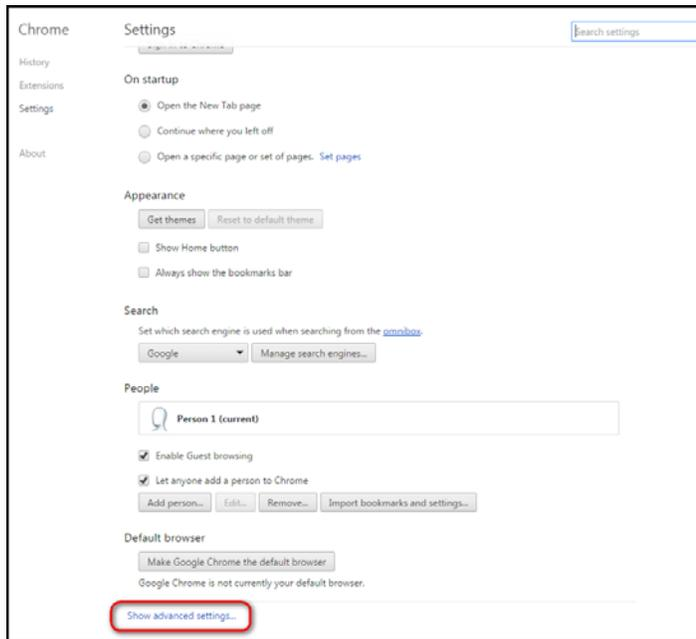

Figure 3: Show Advanced Settings
2. Under **Settings**, click **Show advanced settings....** See Figure 3.